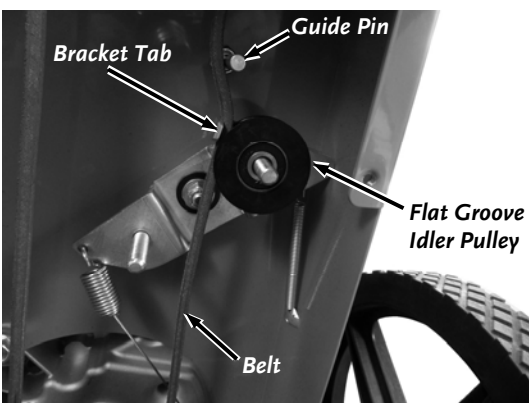

Figure 21
8. Install the small Spacer and flat Idler Pulley (**Figure 21**). Make sure you place the Belt correctly between the Idler Pulley, Bracket Tab, and Guide Pin.
Before adjusting the trimmer head belt tension cable, check that the belt is properly installed (see Figure 21 on page 16). Also make sure the Cable is attached to the bail bar.